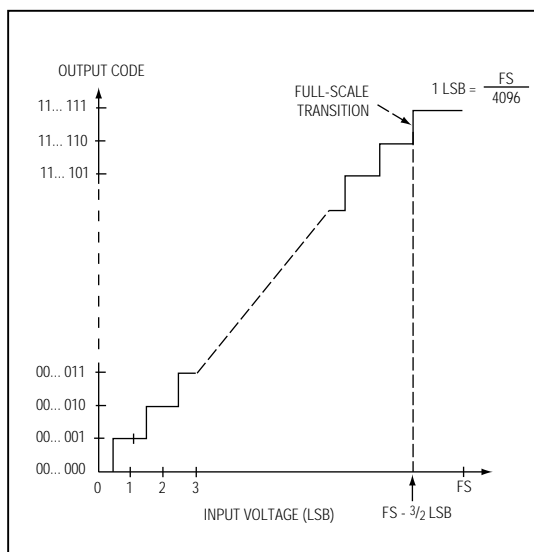

Figure 10. Unipolar Transfer Function
Output data coding for the MAX197 is binary in unipolar mode with $1\text{LSB} = (\text{FS} / 4096)$ and twos-complement binary in bipolar mode with $1\text{LSB} = ((2 \times |\text{FS}|) / 4096)$. Code transitions occur halfway between successive-integer LSB values. Figures 10 and 11 show the input/output (I/O) transfer functions for unipolar and bipolar operations, respectively. For full-scale (FS) values, refer to Table 1.